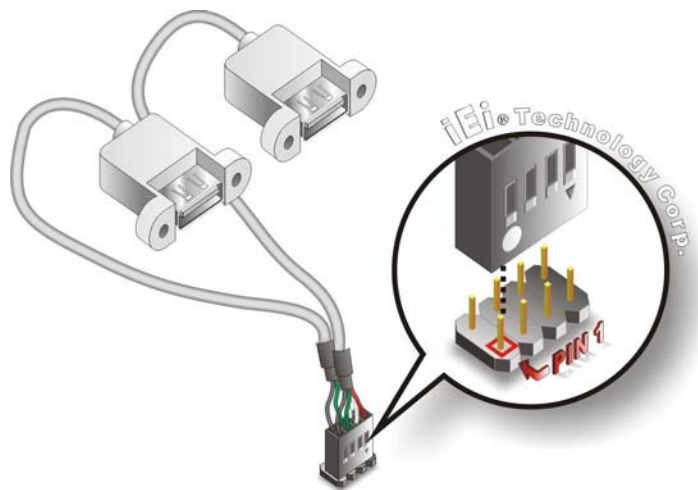

Figure 4-19: Dual USB Cable Connection
Step 3: Insert the cable connectors. Once the cable connectors are properly aligned with the USB connectors on the NANO-945GSE, connect the cable connectors to the on-board connectors. See **Figure 4-19**.